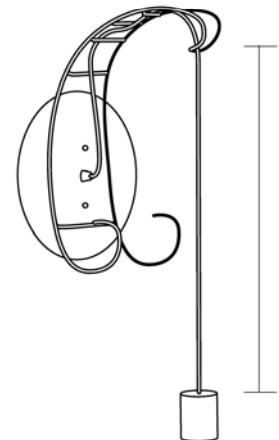

Figure 3
- (figure 3)** Find out how long the cord should hang. Do this by temporarily holding the scroll arm in the desired position, and viewing the height of the socket. The position of the socket tells where the pendant will be.